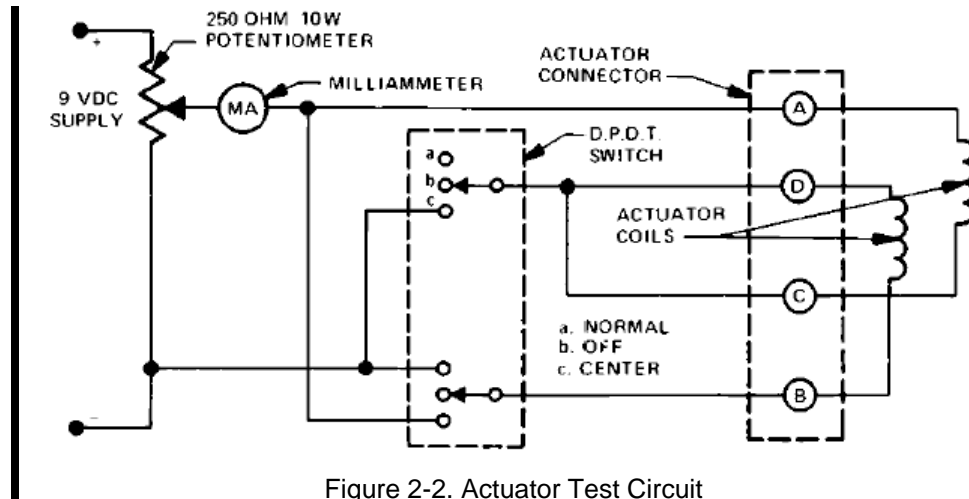

Figure 2-2. Actuator Test Circuit
6. Disconnect leads from actuator terminals. Hook up circuit to actuator, as shown in Figure 2-2, with hydraulic pressure applied as usual to the actuator input. Terminal (output) shaft should move through its range as the potentiometer is rotated and should take the same position each time for a given potentiometer setting. If the output shaft positions or operates erratically, the problem may be in the hydraulic supply.